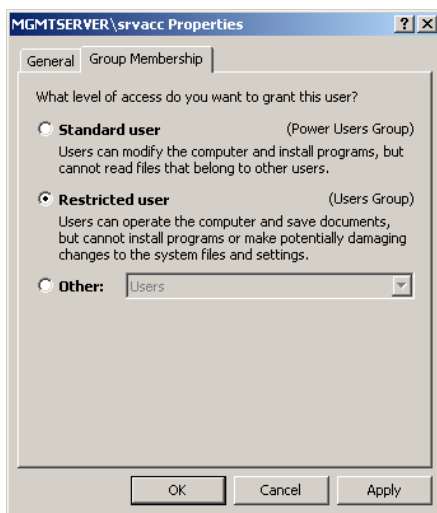

Figure 2-64 MGMTSERVER\srvacc Properties Dialog Box (Group Membership Tab)
2. Type the appropriate new user information in the *User name*, *Full name*, and *Description* fields, then click the *Group Membership* tab. The *MGMTSERVER\srvacc Properties* dialog box displays with the *Group Membership* tab selected (Figure 2-64).